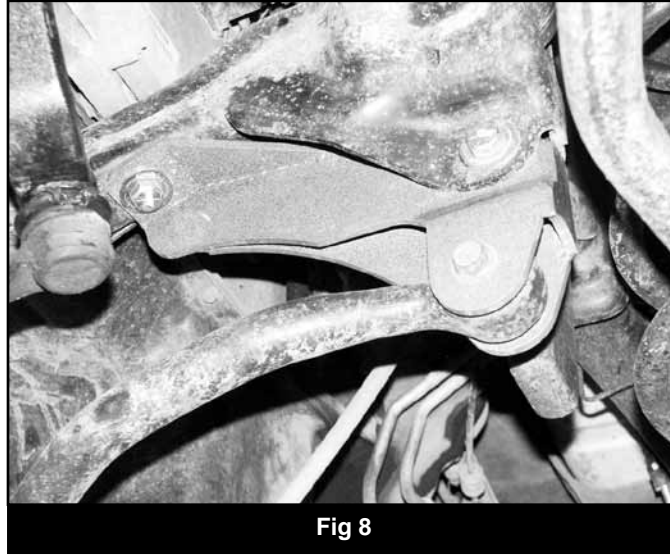

Fig 8
36. Install the new track bar bracket (01285) to the OE frame mount with the 5/8" x 3" bolt, nut and washers from bolt pack #642. Attach the end of the bracket to the frame crossmember with the 9/16" x 3" bolt, nut and washers from bolt pack #642. (Fig. 8) Torque the 9/16" hardware to 100 ft-lbs and 5/8" hardware to 150 ft-lbs.